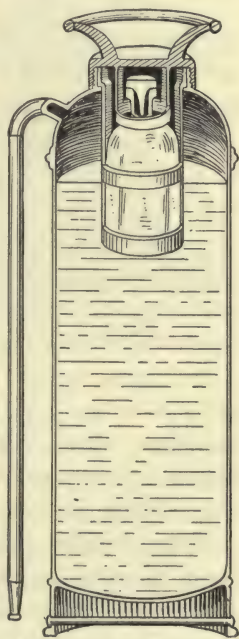

FIG. 32.—Inside view of a fire extinguisher.
**A commercial use of carbon dioxide.**—If a lighted splinter is thrust into a test tube containing carbon dioxide, it is promptly extinguished, because carbon dioxide cannot support combustion; if a stream of carbon dioxide and water falls upon a fire, it acts like a blanket, covering the flames and extinguishing them. The value of a fire extinguisher depends upon the amount of carbon dioxide and water which it can furnish. One form of fire extinguisher consists of a metal case (Fig. 32) containing a solution of bicarbonate of soda and a glass vessel half full of strong sulphuric acid. As long as the extinguisher is in an upright position, these substances are kept separate, but when the extinguisher is inverted, the acid escapes from the bottle, and mixes with the soda solution. The mingling liquids interact and liberate carbon dioxide. A part of the gas thus liberated dissolves in the water of the soda solution and escapes from the tube with the outflowing liquid.